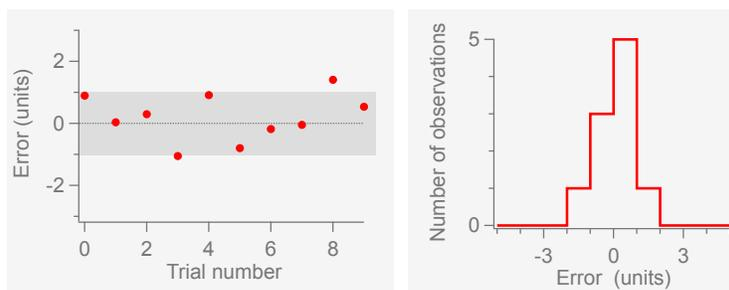

FIG. 2. Determining error distribution. Left: statistical errors from 10 measurements. Right: Histogram of these measurements.
Our goal then is to figure out whether (1) errors are roughly Gaussian; (2) their standard deviation is independent of the volume measured, proportional, or something more complicated; and (3) the proportion of outliers. To make this feasible with manual measurements, each group should measure a different volume, and all groups should pool their data together to address the above questions. To get you started, Fig. 2 shows a typical measurement of 10 errors from a Gaussian distribution. The errors were drawn from a Gaussian distribution of variance (and, thus, standard deviation  $\sigma$ ) = 1. The estimated  $\sigma = 0.8$ . Note that you have to play around with binning to get an appropriate curve. Too narrow and the results will be very noisy; too wide and you lose features of the distribution. With only 10 observations, you may not get as pretty a distribution as this one.